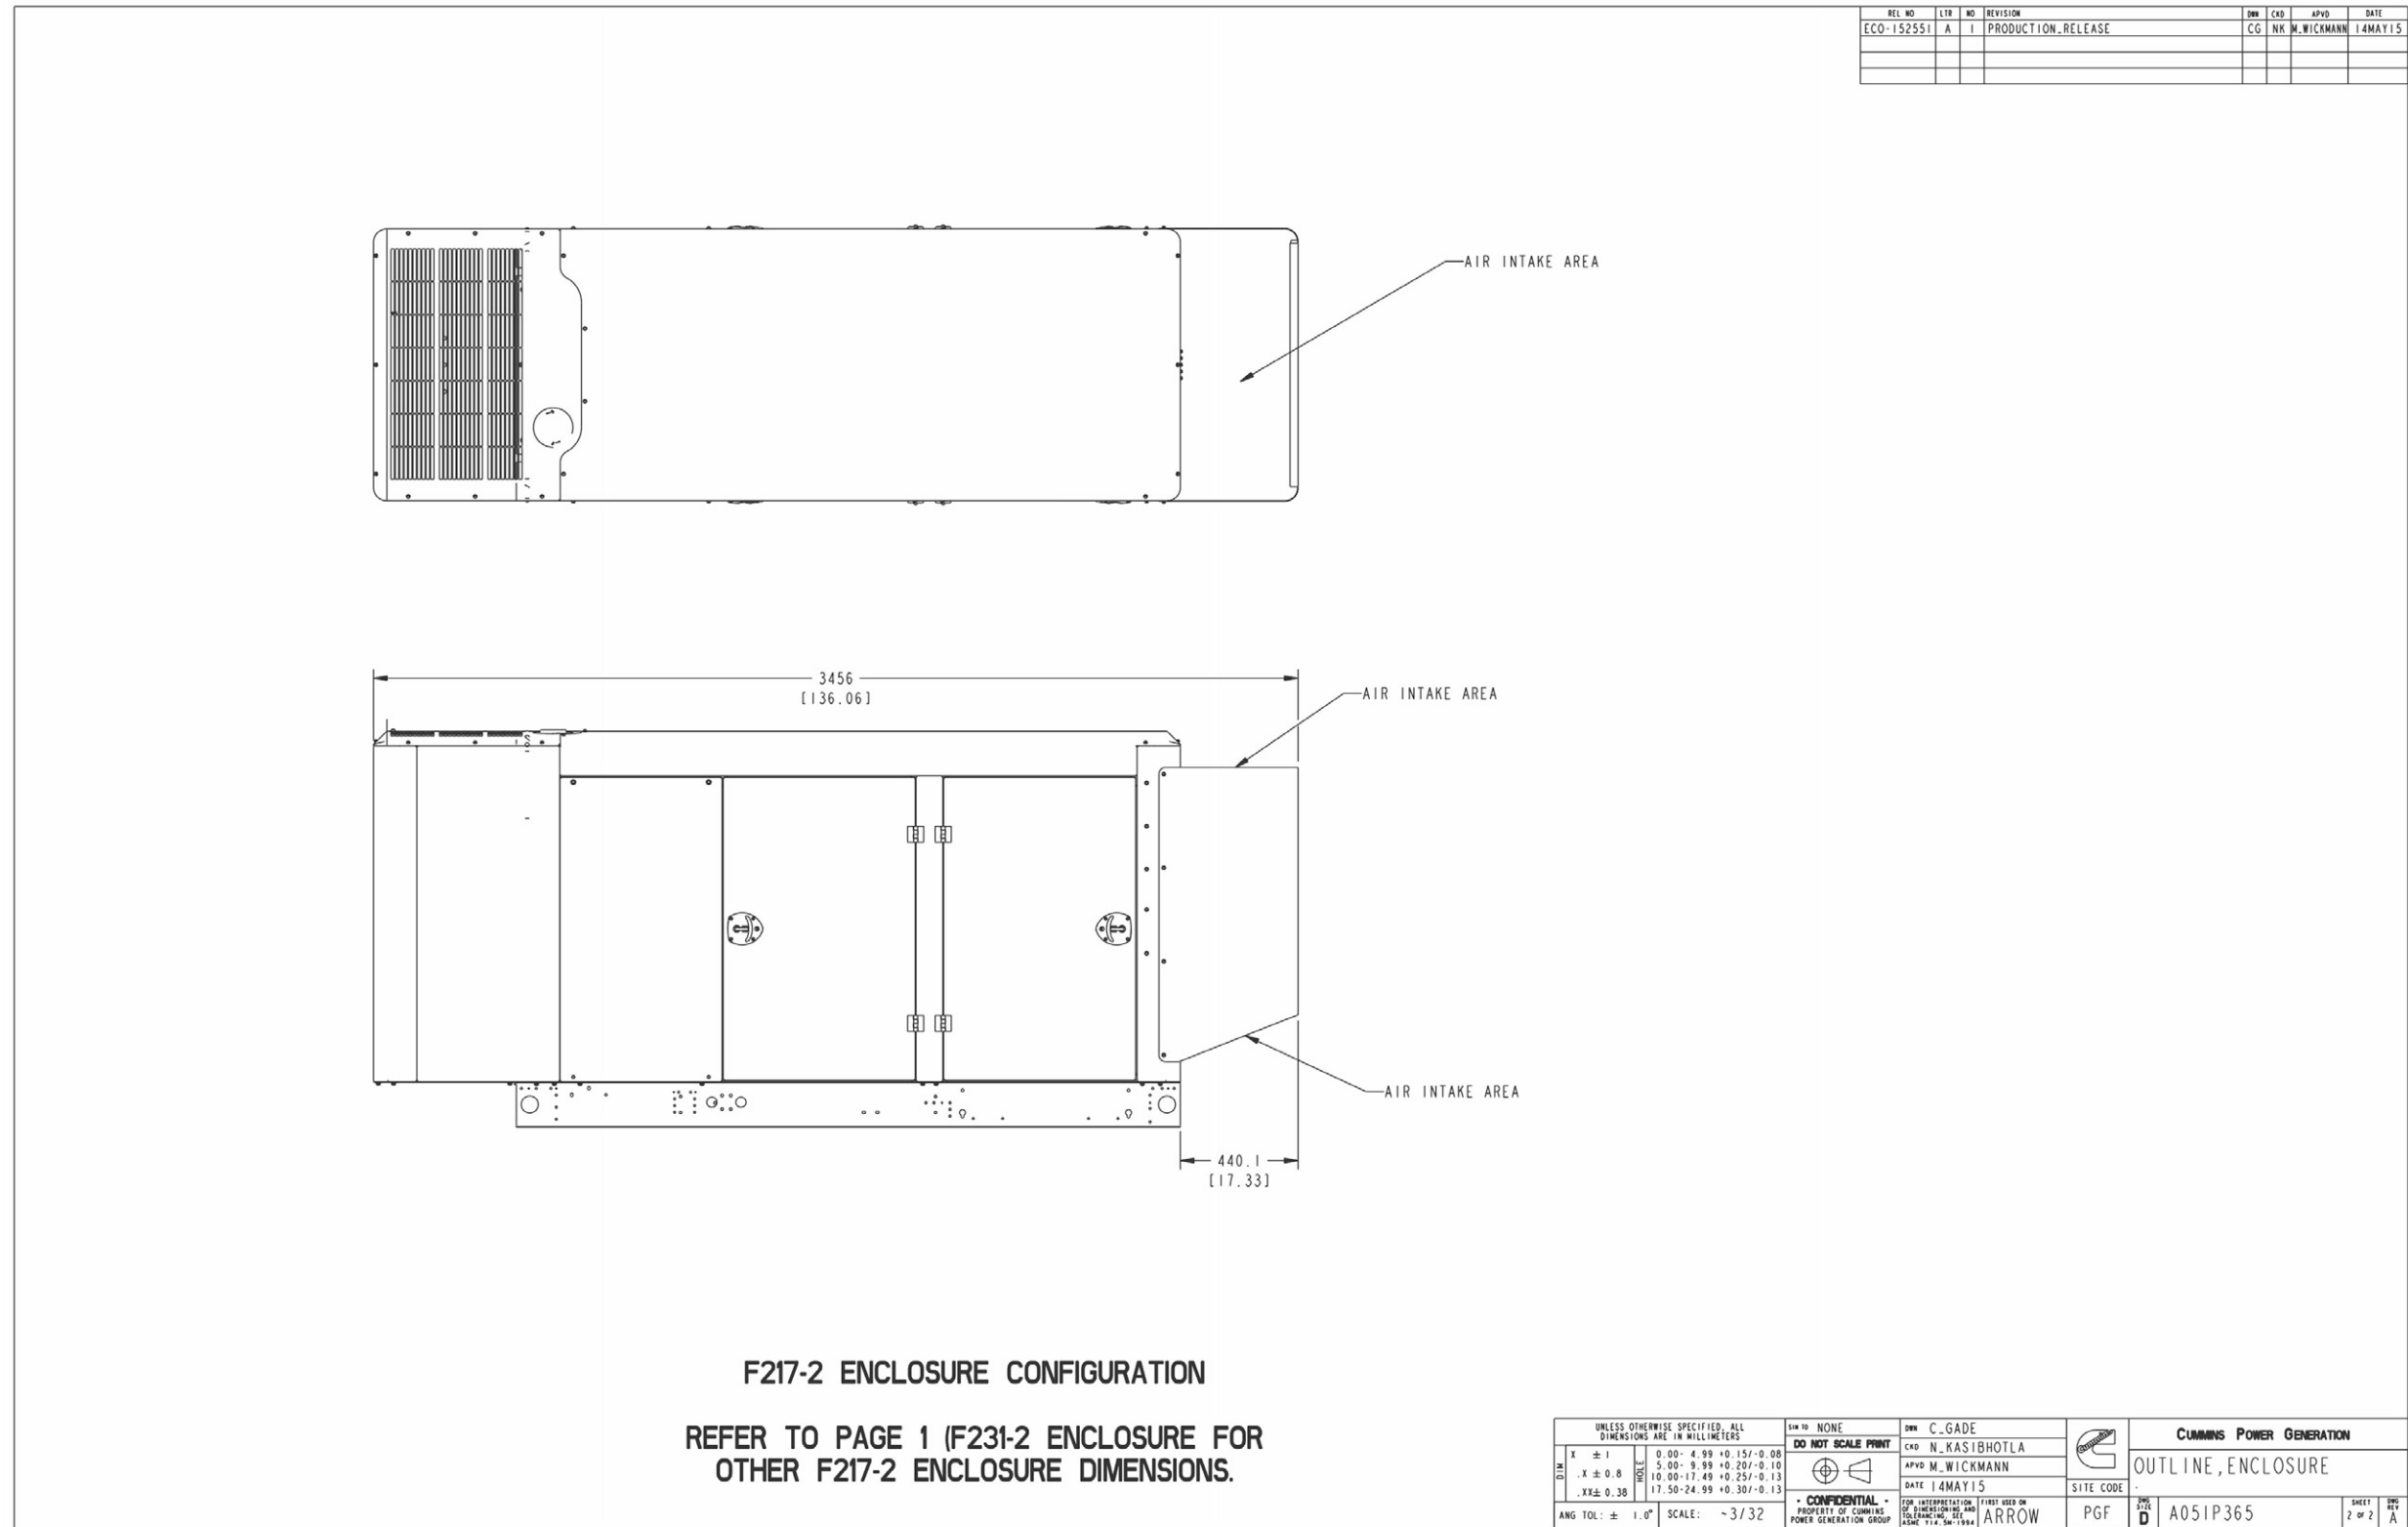

FIGURE 44. ENCLOSURE OUTLINE, SOUND ATTENTION LEVEL 1 AND LEVEL 2 (SHEET 2 OF 2)
- Figure 44. Enclosure Outline, Sound Attention Level 1 and Level 2 (Sheet 2 of 2) 116